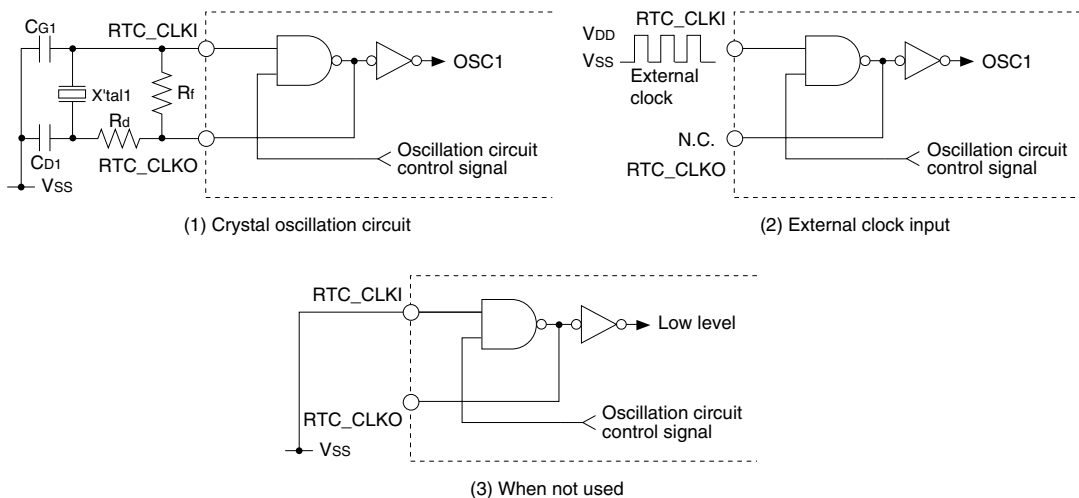

Figure III.1.5.3.1 OSC1 Oscillator Circuit
The OSC1 oscillator circuit accommodates a crystal oscillator and external clock input. The core voltage VDD supplies power for this circuit. Figure III.1.5.3.1 shows the structure of the OSC1 oscillator circuit.
For use as a crystal oscillator circuit, connect a crystal resonator X'tal1 (32.768 kHz, typ.), feedback resistor (R_f), two capacitors (C_{G1}, C_{D1}), and, if necessary, a drain resistor (R_d) to the RTC_CLKI and RTC_CLKO pins and V_{SS}, as shown in Figure III.1.5.3.1 (1).